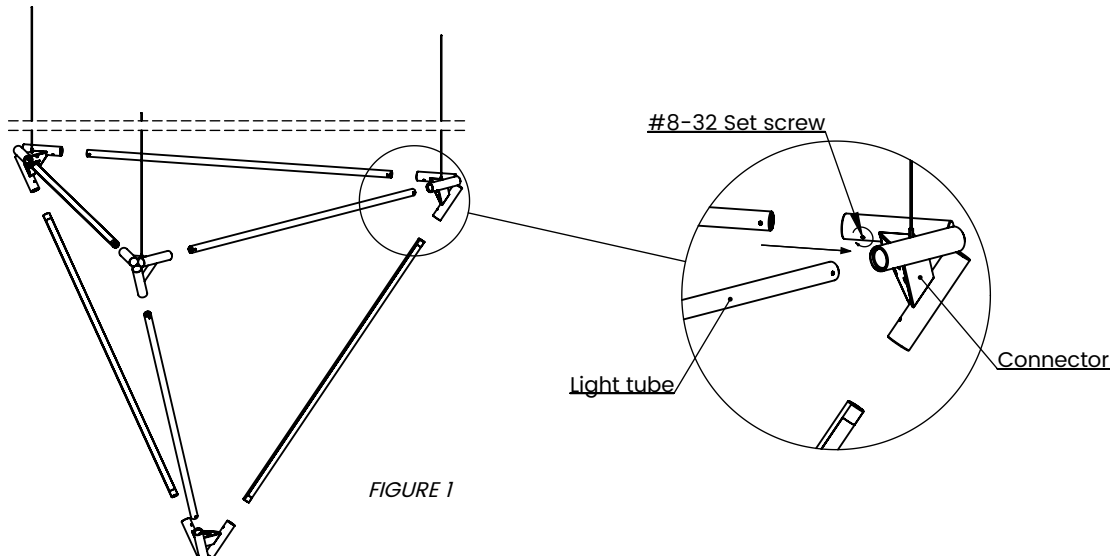

FIGURE 1
2. Insert light tubes into the connectors as shown in figure 1.